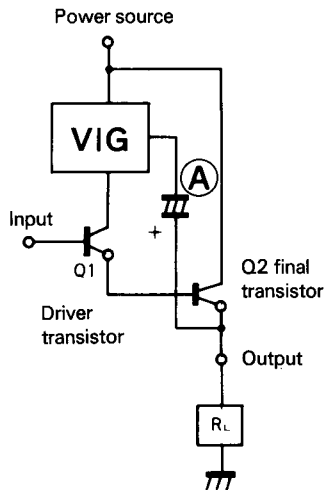
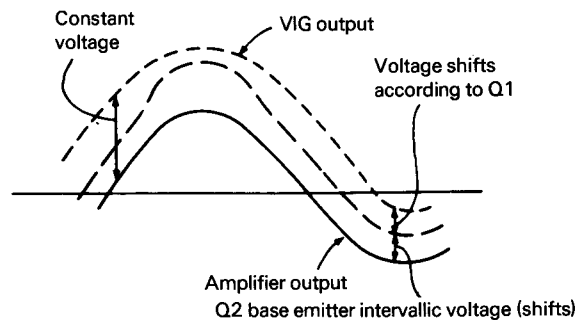

Figure 1 Configuration of a Conventional VIG Circuit
Figure 3 VB-E and VIG Output
The configuration of the VIG circuit incorporated in the current KA-990V is depicted in Fig. 1.
In addition to preventing the influx of undesirable power source components (such as ripples) into the Q1 driver transistor, the VIG circuit also applies a bootstrap to the output as shown in Fig. 1 (A). The output from the VIG then follows the output from the amplifier in a constant voltage shift pattern. The input signal is no longer absorbed by the power source according to the potential which exists between the input and the power, and high-frequency characteristics and distortion rates are improved.
Upon further investigation, however, doubts arose concerning operation of the Q2 driver transistor at the above-mentioned constant voltage. That is, the voltage across the transistor base and emitter could be thought of as normally about 0.6 volts, but the final transistor voltage shifted between 0.6 to about 2.0 volts in keeping with the output current (see Fig. 3). In the conventional configuration depicted in Fig. 1, this shift caused the voltage applied to the driver transistor Q1 to shift as well. It became clear that with the conventional configuration undesirable power source components were suppressed, but this in turn produced new voltage shift components.